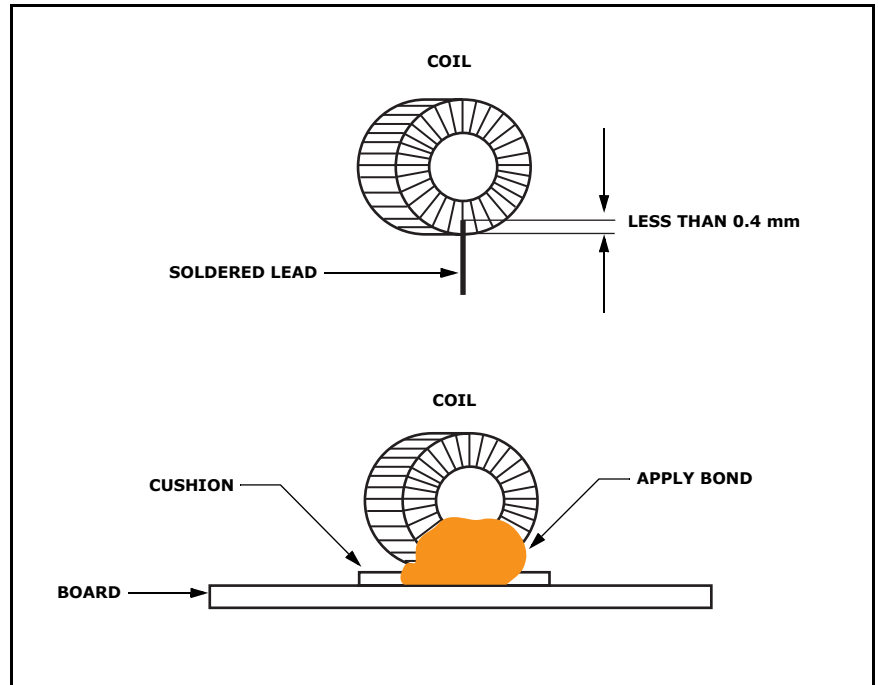

Figure 1
2. If the length of the soldered lead is more than 0.4 mm from the bottom of the coil, replace the coil with a new coil. (See Figure 1.)
4. Affix the lead, the cushion, and the board together with bond as shown in Figure 1.